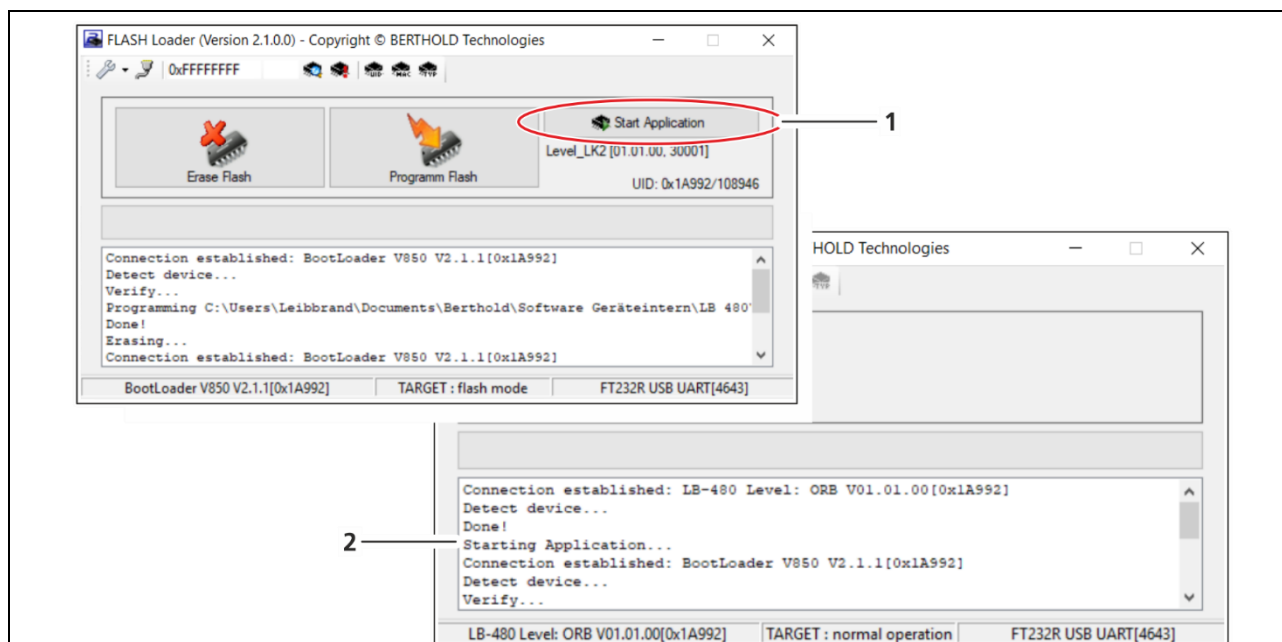

Fig. 7 Start embedded software
26. After successful installation, click the button <Start Application> (Fig. 7, Pos.1).
- ▶ The new embedded software has been installed correctly (Fig. 7, Pos.2) and the required resets (Factory Reset and Software Reset) can be performed.